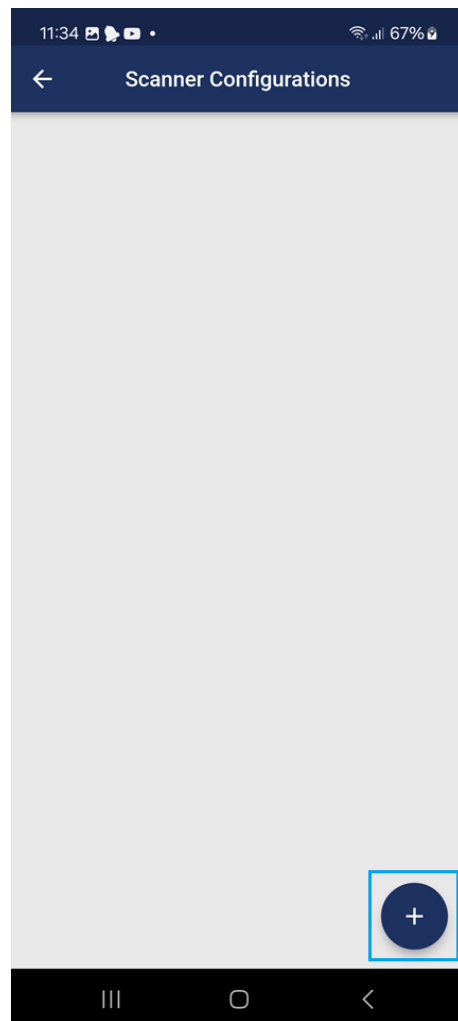
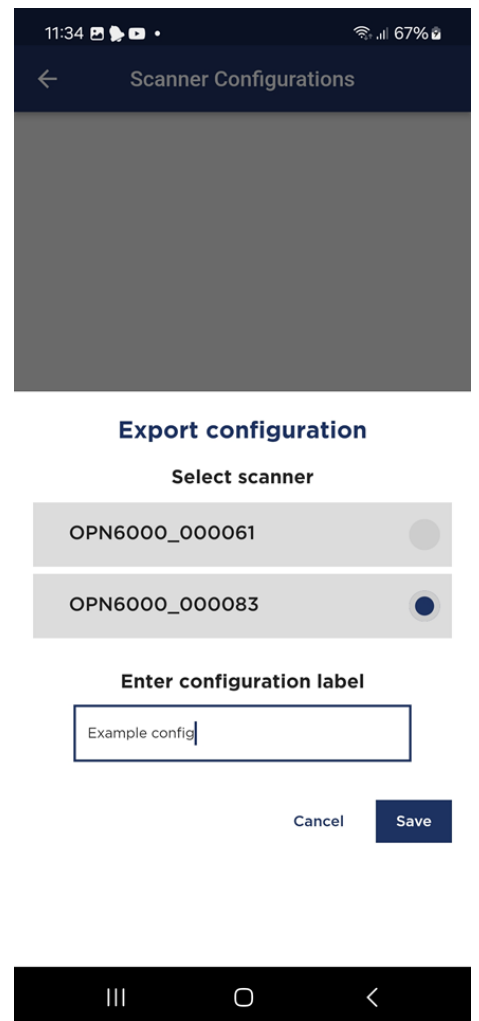

Figure 7-11: The *Export configuration* button on the empty *Scanner Configurations* page.
Figure 7-12: The *Export configuration* dialog.
- 2. Export Configuration:** On the *Scanner Configurations* page, click the floating add icon in the bottom-right corner (Figure 7-11). This opens the Export configuration dialog (Figure 7-12), where you select the scanner to export settings from, enter a label for the configuration, and then click *Save* to store it. Alternatively, a configuration can be exported from the device's status page or the scanner settings page.